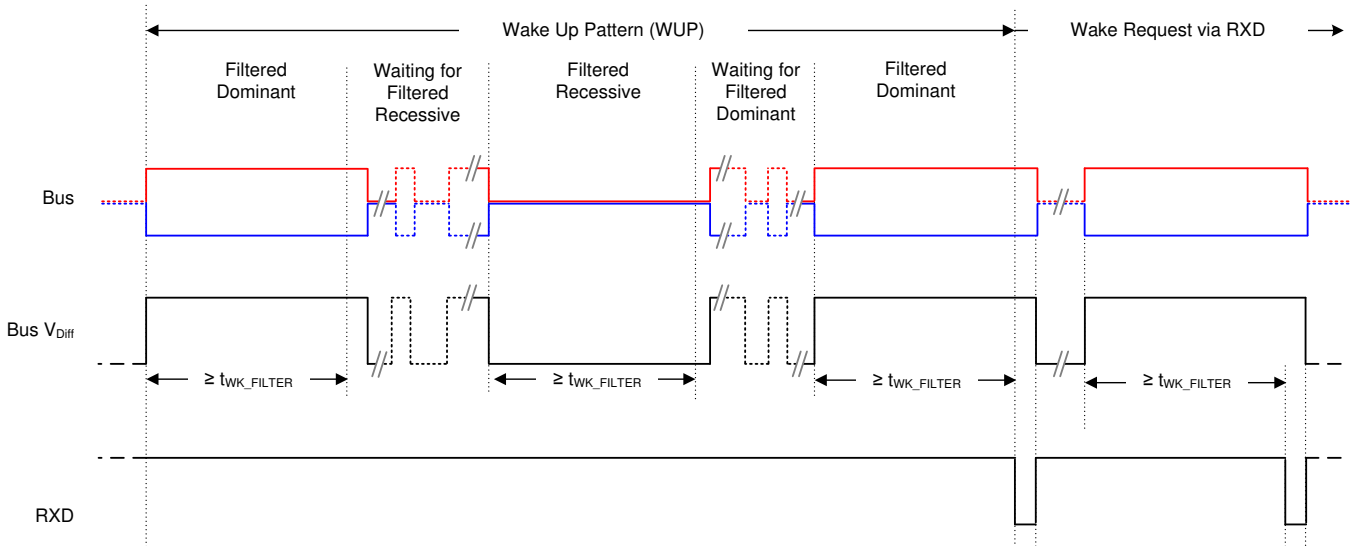

Figure 33. Wake Up Pattern (WUP) and Bus Wake via RXD Request (BWRR)
(2) Standby Mode RXD behavior: See Figure 33.
(3) Mirrors bus state: low if CAN bus is dominant, high if CAN bus is recessive.
This is the low power mode of the device. The CAN driver and main receiver are turned off and bi-directional CAN communication is not possible. The low power receiver and bus monitor are enabled to allow for RXD Wake Requests via the CAN bus. A wake up request will be output to RXD (driven low) as shown in Figure 33. The local CAN protocol microprocessor should monitor RXD for transitions (high to low) and reactivate the device to normal mode based on the RXD Wake Request. The CAN bus pins are weakly pulled to GND during this mode, see Figure 32.
See Figure 33 for the timing diagram of the WUP. The pattern,  $t_{WK\_FILTER}$  time used for the WUP and BWRR prevent noise and bus stuck dominant faults from causing false wake requests. If the device is switched to normal mode, or an under voltage event occurs on  $V_{CC}$  the BWRR will be lost.